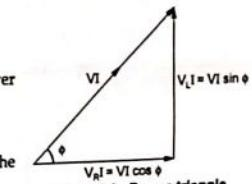

Fig. 3.5.3 Power triangle
- From this equation, power triangle can be obtained as shown in the Fig. 3.5.3.